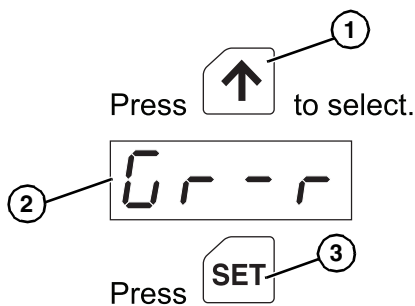

Figure 35
3. Press up (Figure 35, item 1) to select “Gr-r”(Figure 35, item 2) (gear ratio), and then press SET (Figure 35, item 3).